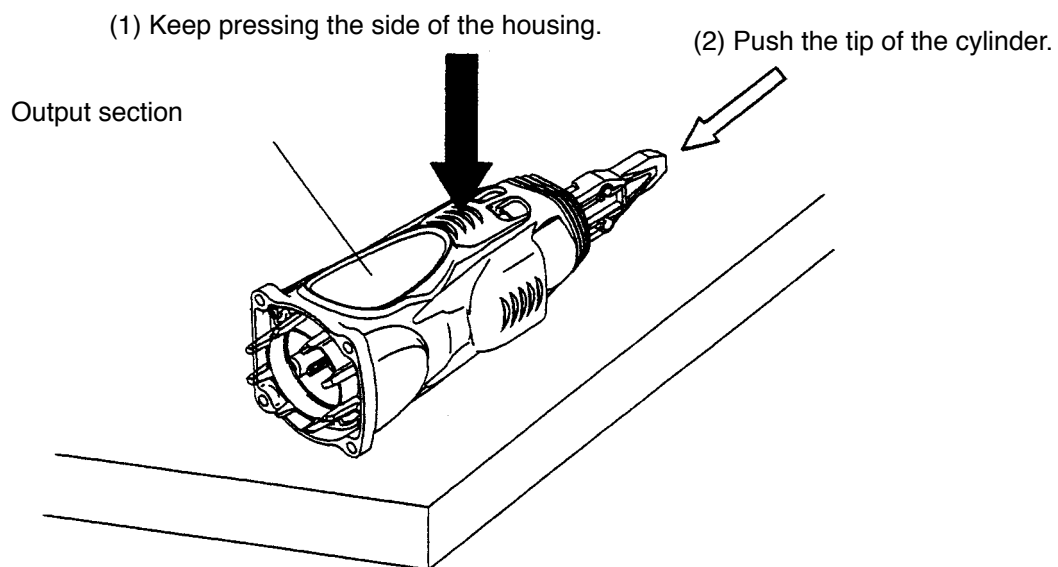

Fig. 34
- Push the tip of the Cylinder Ass'y [42] in the Housing Ass'y [74]. Then the Cylinder Ass'y [42], chamber section, Pushing Lever Arms (A) [60] and (B) [62] can be removed from the Housing Ass'y [74] in a single unit. It is easy to remove them while pressing the side of the Housing Ass'y [74] with a hand (Fig. 34).
- Secure the U-Nut M4 [59] with a spanner (7 mm (0.276")) or slender hd. pliers and loosen the Hex. Socket Hd. Bolt M4 x 10 [61]. Then Pushing Lever Arms (A) [60] and (B) [62] are separated from the Pushing Lever Connector [68] and they can be removed from the Cylinder Ass'y [42].